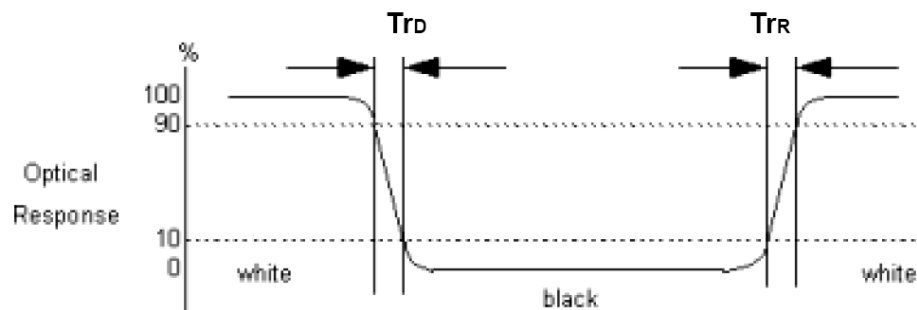

Fig.4-3 Response time
4. Response time is the time required for the display to transition from white(L_{255}) to black(L_0) (Decay Time, $\text{Tr}_\text{D} = \text{Tf}$) and from black(L_0) to white(L_{255}) (Rise Time, $\text{Tr}_\text{R} = \text{Tr}$). For additional information see Fig. 4-3.